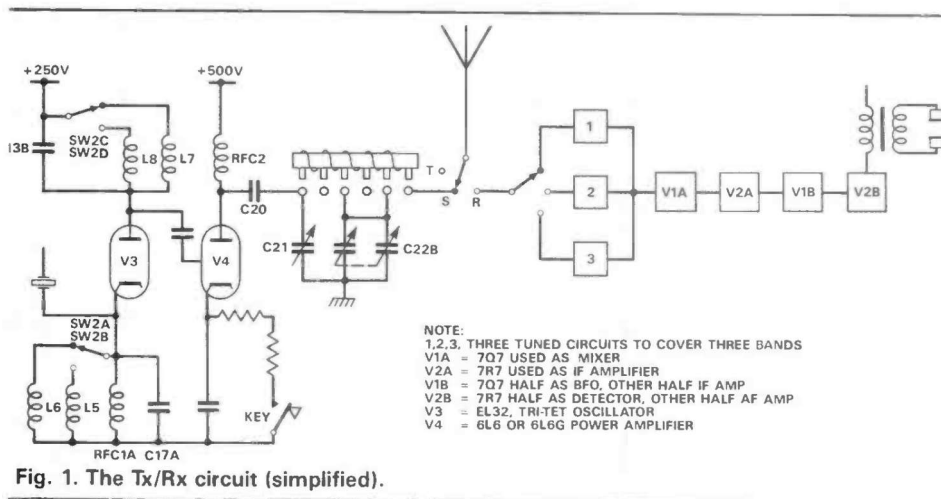

Fig. 1. The Tx/Rx circuit (simplified).
Refer to Figs 1, 2 and 4. On receive you have 500 volts for the transmitter power amplifier stage still applied, but due to the send/receive change over switch being on receive, the 250 volts from the psu is taken into the transmitter and then routed out on segment 'A' of the send/receive switch to the receiver for ht supply.
TSR switch. This switched the B2 to either tune (T) to send (S) or to receive (R). This switch is shown in Fig. 1.
The B2 transmitter has, on the front panel, a switch marked R (receive), S (send) and T (tune). This switch, which is on the top left as you look at the front panel, has two layers. We have re-drawn the switch connectors, rather than show the original diagram. The switch was labelled (for those that have the original diagram) A,B,C,D,E,F. We have redrawn the switch in Fig.1 in a clearer form: the six segments all move when the switch is moved, so the diagram shows all the segments ganged and, like the original, is shown in the receive position.